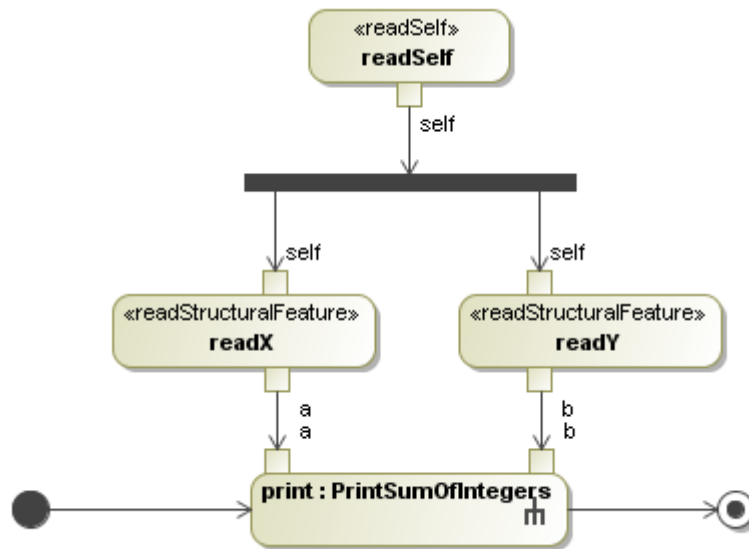

Figure 71 -- A Complete PrintSum Activity Diagram
7. Create a **Fork Horizontal** and connect it to the pins of the actions on the diagrams using an object flow (Figure 71).